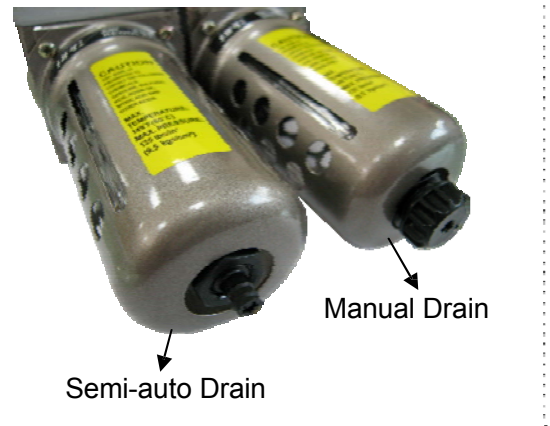

Figure 8-3
- The valve opens automatically and discharges water or dist when air pressure is under 0.7 kgf/cm2. It will automatically close when it is over 1.2 kgf/cm2, and also can be also operated manually (see Figure 8-3).